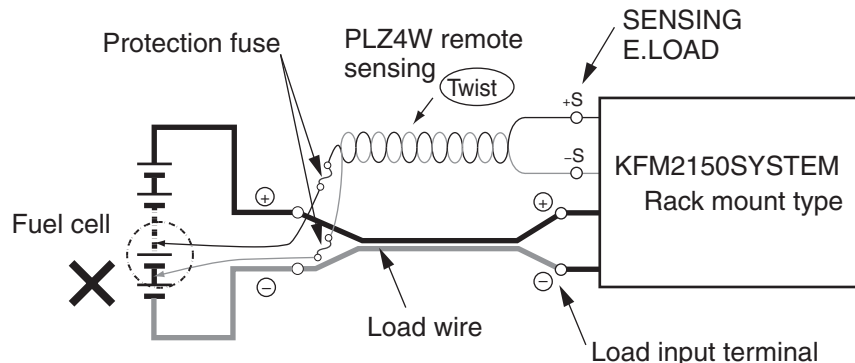

Fig. 3-6 Example of a unrecommended wiring
- The PLZ4W remote sensing circuit may break. Do not connect the SENSING/E.LOAD (+S and -S) terminals on the back side of the rack directly to the cell of the fuel cell (Fig. 3-6).